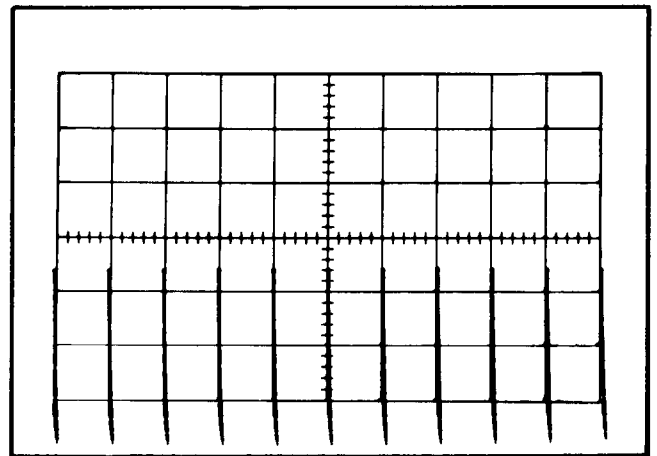

Fig. 5-13. Typical crt display showing correct magnified gain adjustment.
- d. Check—Crt display for one marker each division between the first and ninth graticule lines (see Fig. 5-13) ± 0.32 division ($\pm 4\%$).